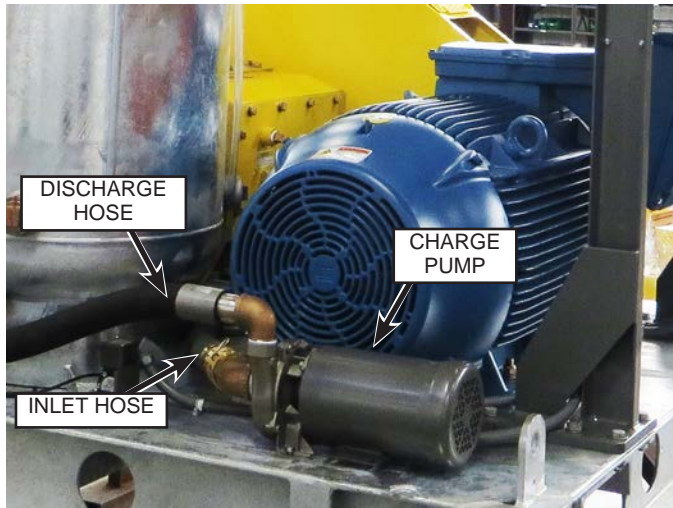

Fig. 122: Charge Pump
4. Remove the inlet and outlet hoses (Fig. 122) from the pump.